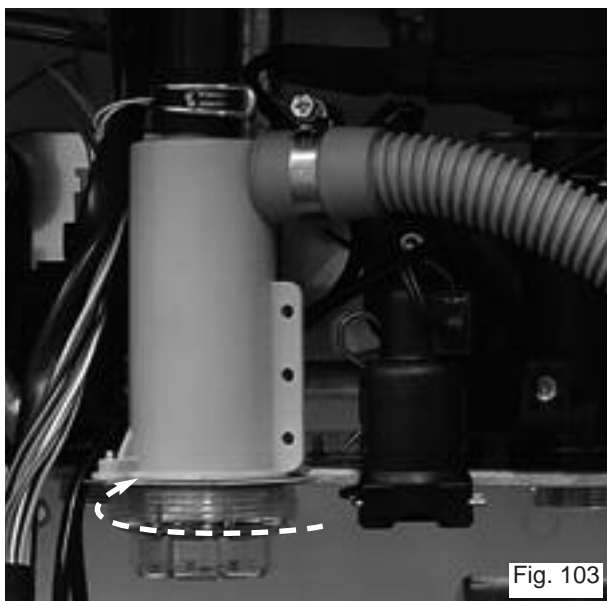

Fig. 103
1. Unscrew the cap of the condensate trap (see Fig. 103)